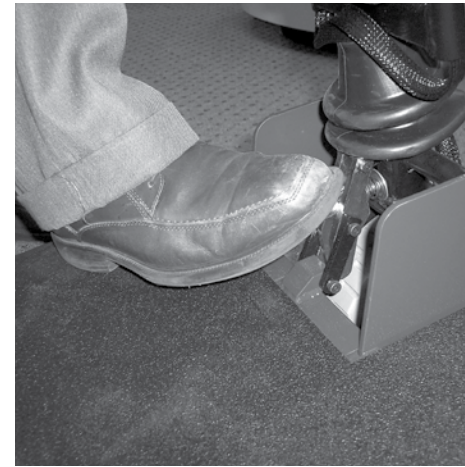

Figure 1
2. While grasping the top of the battery bracket, step on handle release lever (see Figure 1). Lower handle about 2 inches.